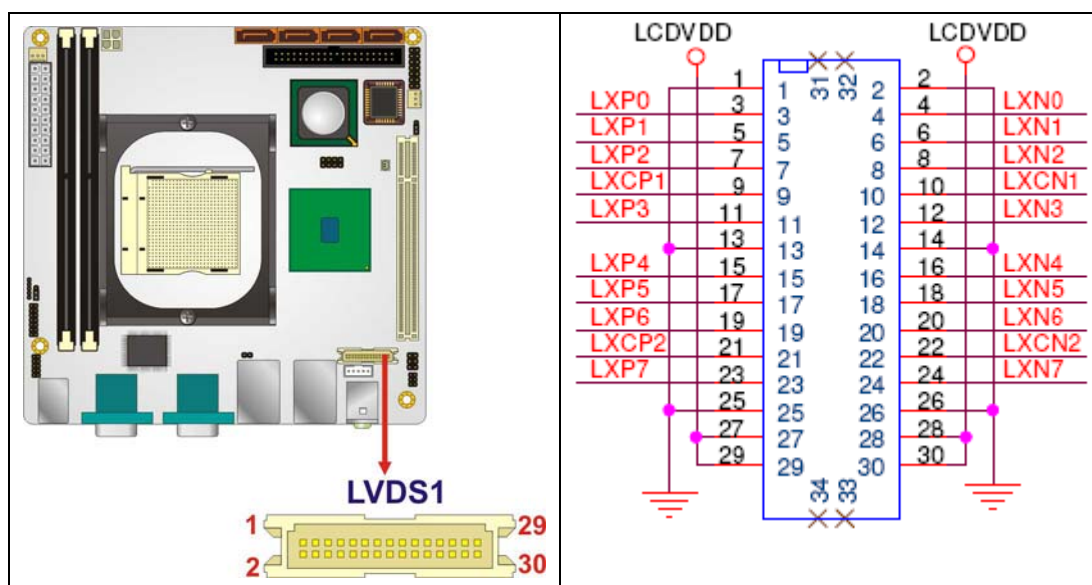

Figure 4-10: LVDS LCD Connector Pinout Locations
- CN Location:** See Figure 4-10